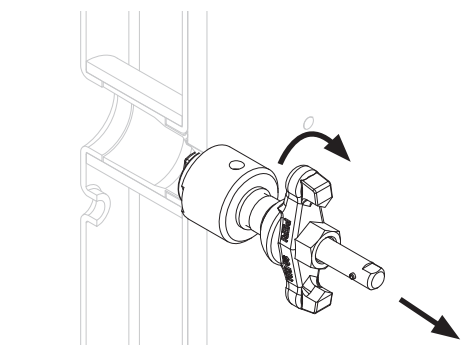

Fig. D6.04b
4. Screw out the Extraction Head from the sealing. (Fig. D6.04b)